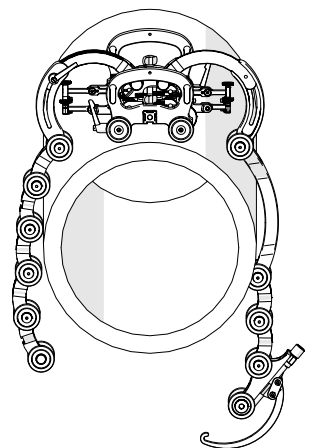

Fig. 124 - Place on pipe
5. Drape the configured assembly around the pipe/tube to be inspected (Fig. 124). Ensure the scanner's double wheel chain links straddle the weld.